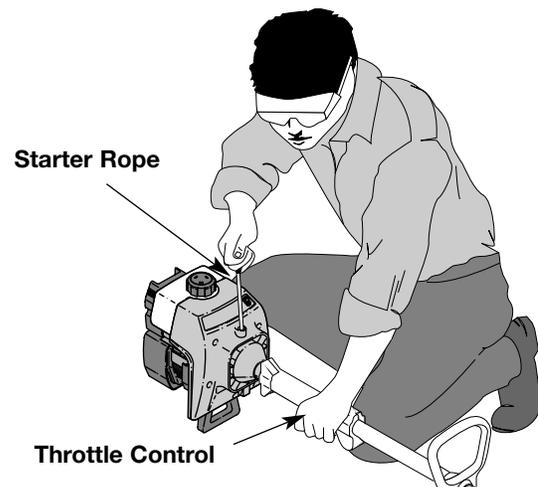

Figure 9
WARNING: Avoid accidental starting. Be in the starting position when pulling the starter rope. See Figure 9. The operator and unit must be in a stable position while starting to avoid serious personal injury.
5. With the unit on the ground, squeeze the throttle control and pull starter rope briskly. See Figure 9. Continue pulling until the engine sounds as though it wants to run (normally 2 to 5 pulls).
7. Pull starter rope briskly 1 to 3 times to start the engine. See Figure 9.
1. Release your hand from the throttle control. See Figure 9. Allow the engine to cool down by idling.